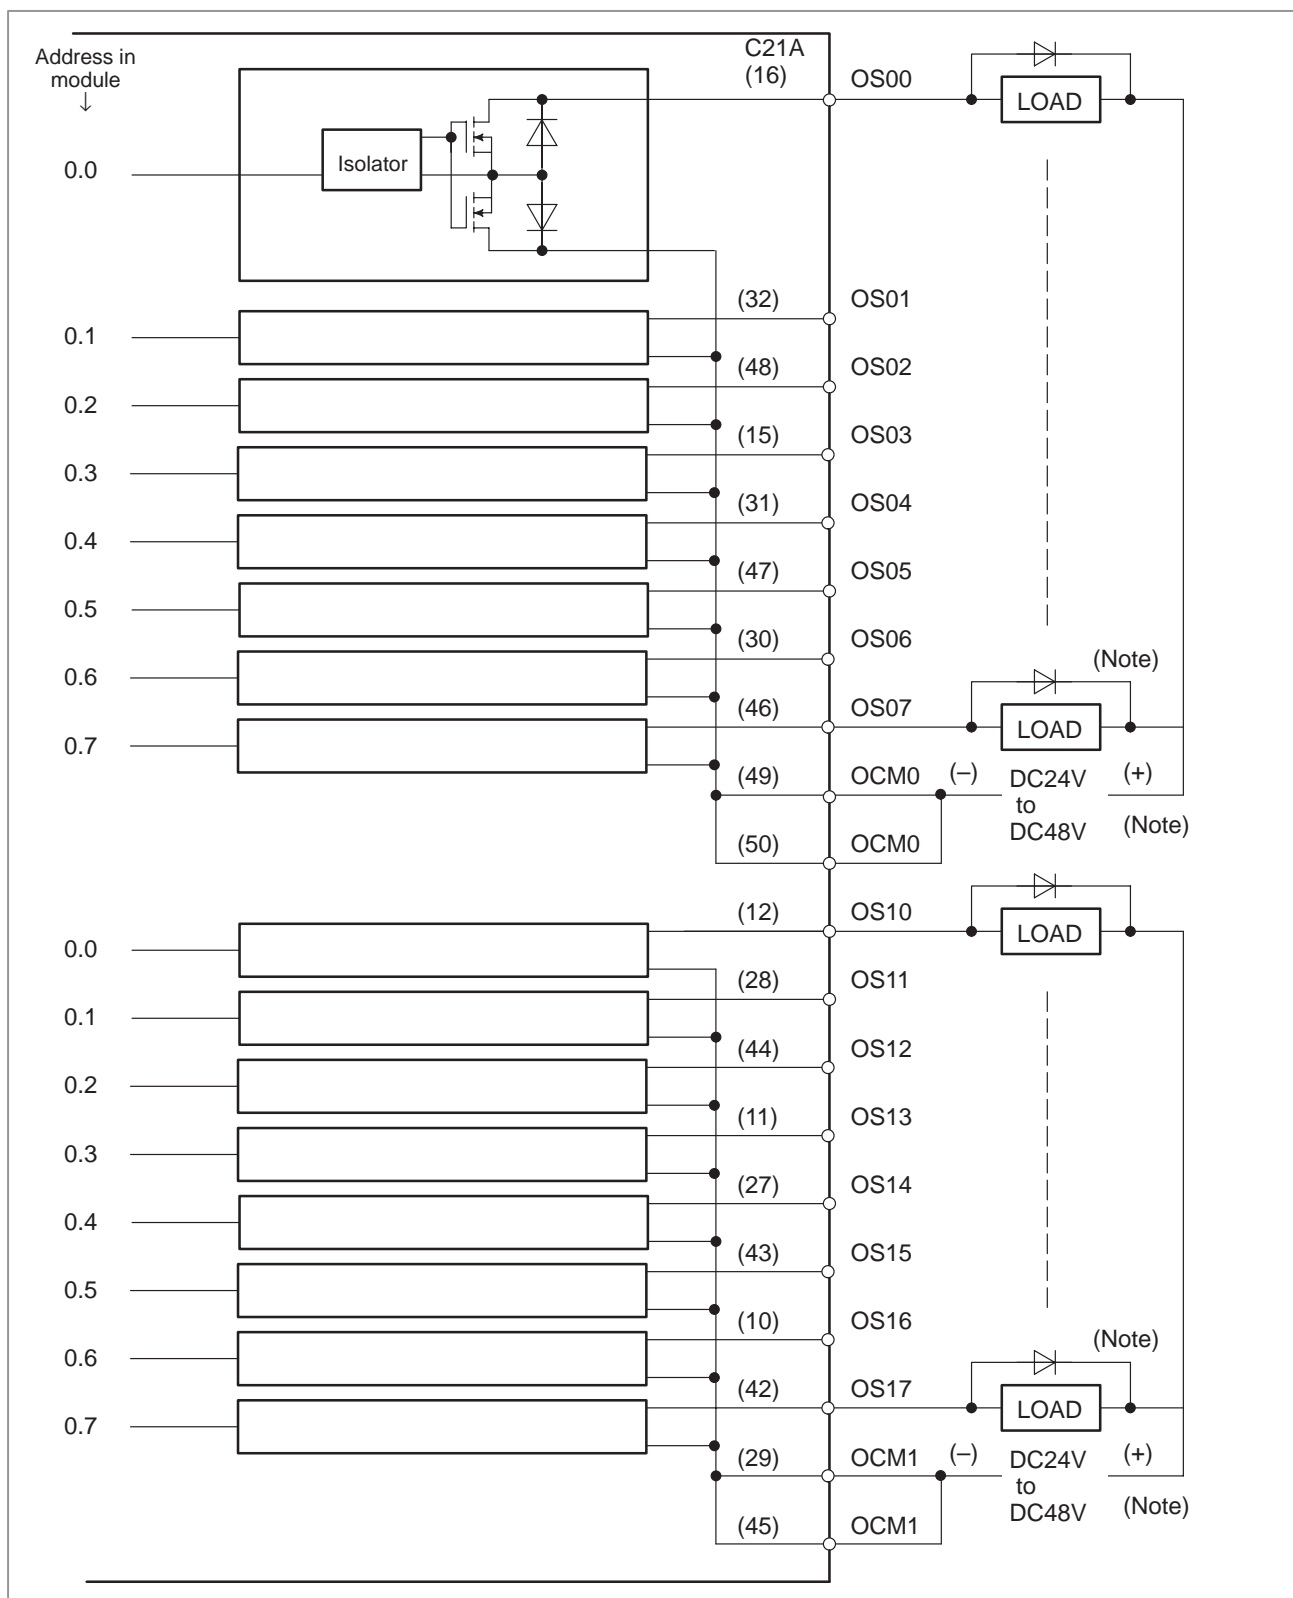

Fig. H.2.5 (a) Digital output module OD32A, OD64A (1)
- Fig. H.2.5 (l) : Connecting drawing of OA08E, OD16E